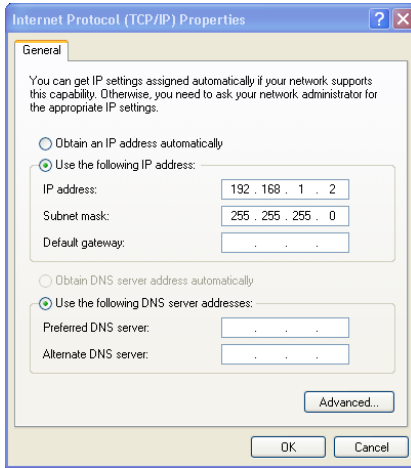

Figure 7: Internet Protocol (TCP/IP) Properties Window
6. Select Use the following IP Address, and fill in the details as shown in Figure 7.